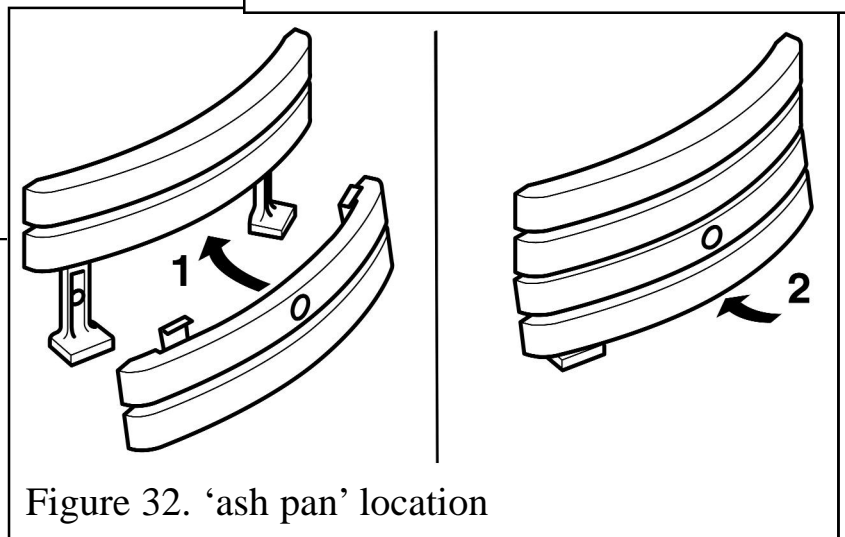

Figure 32. 'ash pan' location
4. The 'ash pan' casting should be located as in figure 32.